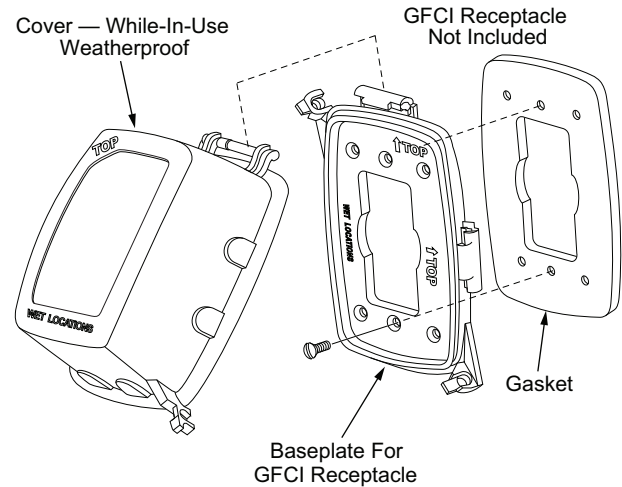

Fig. 34 — Weatherproof Cover Installation
4. Mount the weatherproof cover to the backing plate as shown in Fig. 34.